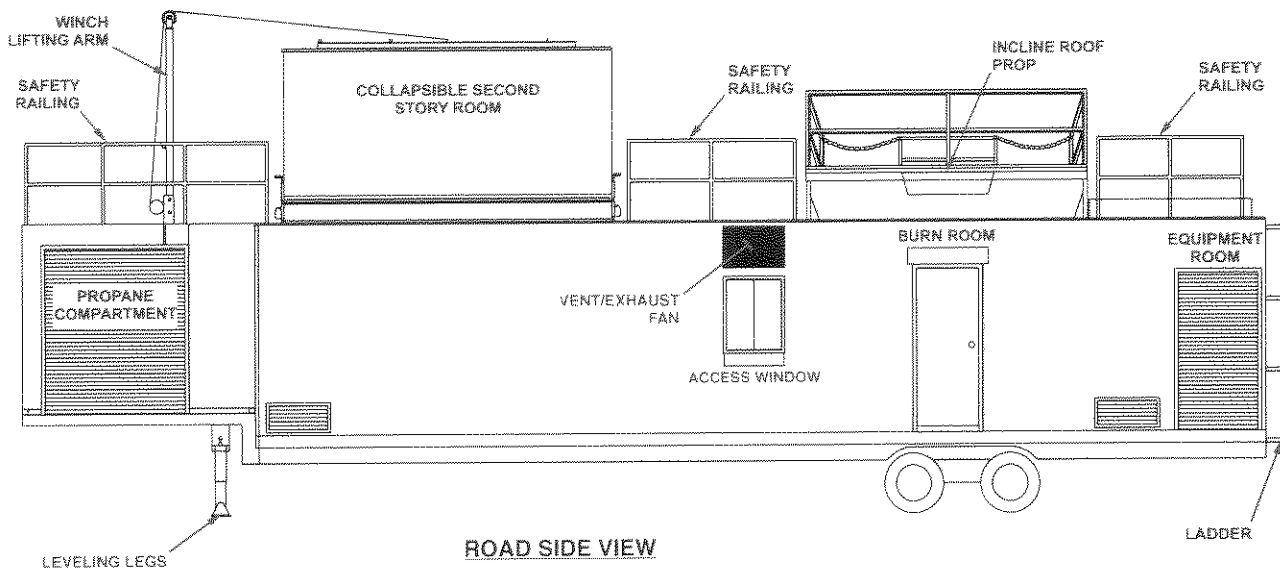

Figure 3-2 Component Location
1. Access roof by using the rear ladder (Figure 3-2).